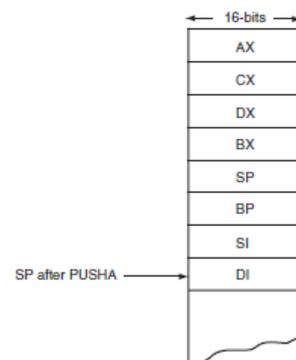

Figure 4-14: The operation of the PUSH A, showing location and order of stack data
- PUSH A(push all) copies the contents of the internal register-set(except the segment registers) to the stack in the following order: AX, CX, DX, BX, SP, BP, SI and DI (Figure 4-14).